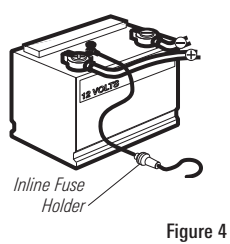

Figure 4
- 1b. If you need to wire the control head directly to a battery, obtain and install an inline fuse holder and a 3 amp fuse (not included) for the protection of the unit (Figure 4). Humminbird® is not responsible for over-voltage or over-current failures.